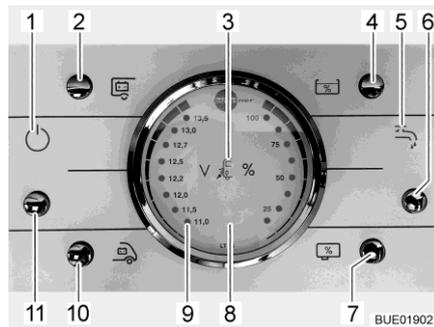

Fig. 121 Panel LT 96
The button (Fig. 121,11) switches the panel and the 12 V power supply to the living area on and off.
- Switching on:** ■ Press the button (Fig. 121,11): The 12 V living area power supply is switched on. The indicator lamp (Fig. 121,1) lights up.
- Switching off:** ■ Press the button (Fig. 121,11): The 12 V living area power supply is switched off. The indicator lamp (Fig. 121,1) goes out.
With the V/tank gauge (Fig. 121,8), note the left scale. The gauge automatically lights up as soon as a button is pressed.
- Press the button (Fig. 121,10): The battery voltage of the starter battery is displayed.
- Press the button (Fig. 121,2): The battery voltage of the living area battery is displayed.
With the V/tank gauge (Fig. 121,8), note the right scale. The gauge automatically lights up as soon as a button is pressed.
- Press the button (Fig. 121,4): The volume of water is displayed.
- Press the button (Fig. 121,7): The volume of waste water is displayed.
- Press the button (Fig. 121,6): The water supply is ON. The water pump indicator lamp (Fig. 121,5) lights up.
- Press the button (Fig. 121,6): The water supply is OFF. The water pump indicator lamp (Fig. 121,5) goes out.
The red "ALARM" warning light (Fig. 121,9) flashes as soon as the voltage of the living area battery falls below 11 V (measured under operation) and there is a risk of a total discharge.
The 12 V indicator lamp (Fig. 121,1) lights up when the 12 V main button (Fig. 121,11) is switched on.
The 230 V indicator lamp (Fig. 121,3) illuminates whenever line voltage is available at the transformer/rectifier input.